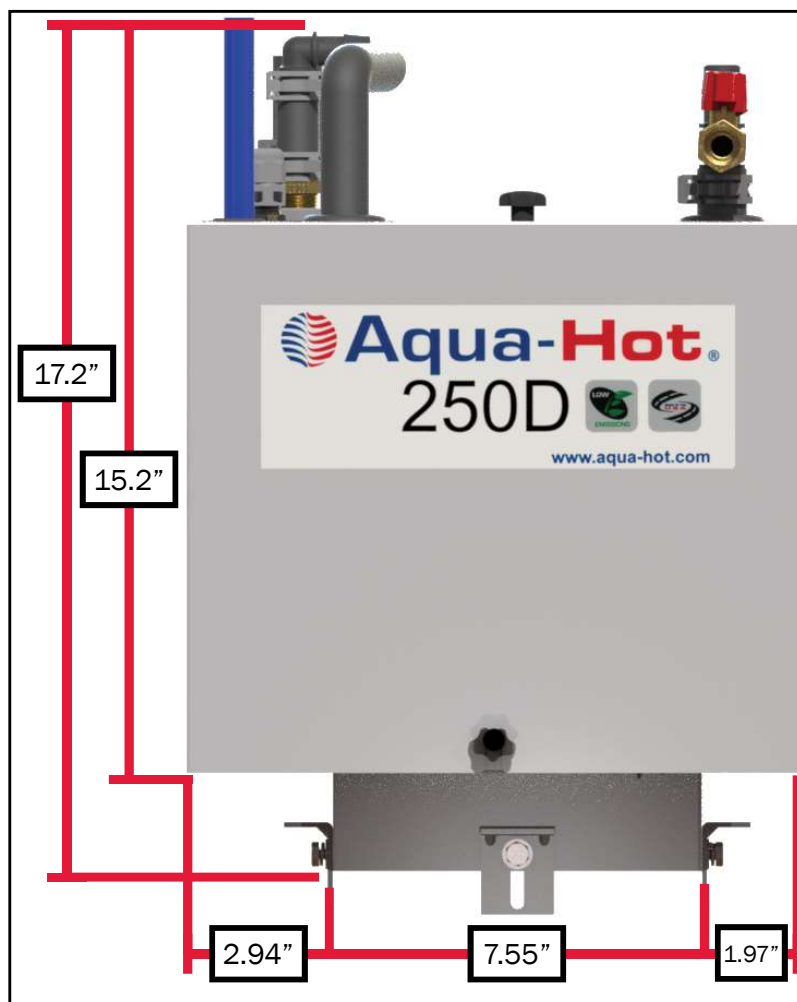

Figure 4
- Front view Aqua-Hot dimensions Figure 4.